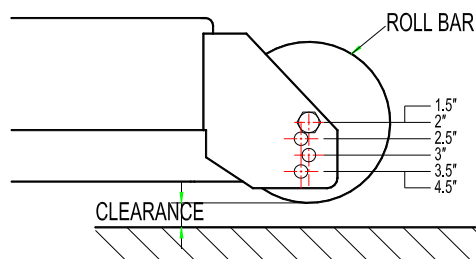

FIG 6
- e) Adjust anti-scalp rollers for Normal Operating Conditions. Stop engine, wait for all moving parts to stop, and remove key. Place rollers in one of the positions shown in Figure 6. Rollers will maintain 3/4 in. (19mm) clearance to the ground to minimize gouging and roller wear or damage.